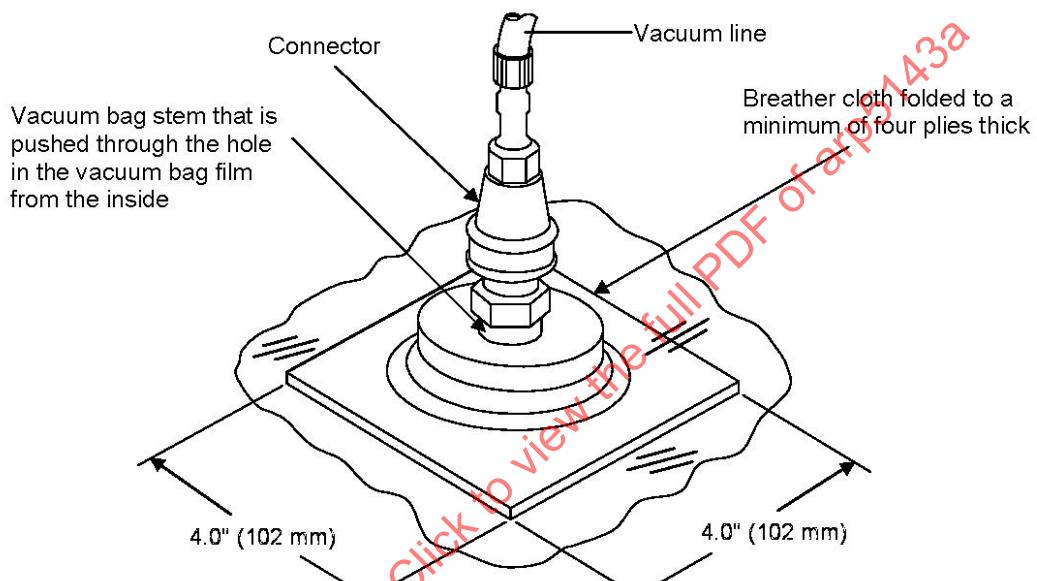

Figure 8A - Typical two-piece vacuum port
5.5.1 Installation of Vacuum Ports (see Figures 8A, 8B, and 8C)